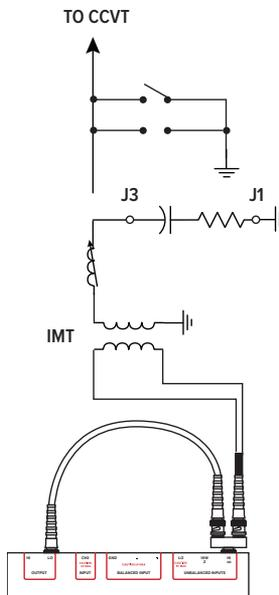

FIG 2 - SERIES INDUCTOR TEST CONNECTIONS
8. Connect the Model 630 test box red terminal (J3) to the output of the series inductor and the black terminal (J1) to ground (See Fig. 2).